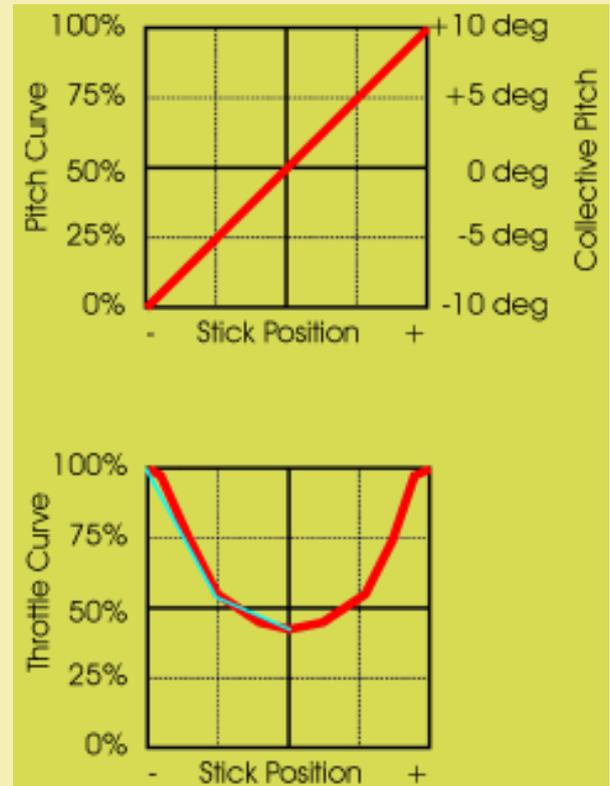

Fig. 8. 3D mode
- Pitch curve: set Pitch max./min. to 90% (-10 to +10 degree). Depending on the engine/muffler/fuel used this might need some adjustments after the first flights. Fig. 8.
shape on simpler transmitters) as indicated in Fig.8 using the point edit function on the transmitter. Copy the values symmetrically for the + and - range. A throttle setting in the center (0 degree pitch) below 50% is reasonable for most engines. The U-shape fits the engine characteristics better than a simple V-shape. You can activate and use the throttle- "hover" trimmer to adjust the throttle setting for the area around the 0 degree pitch during flight for fine adjustment (depending on the needle valve setting and weather conditions).